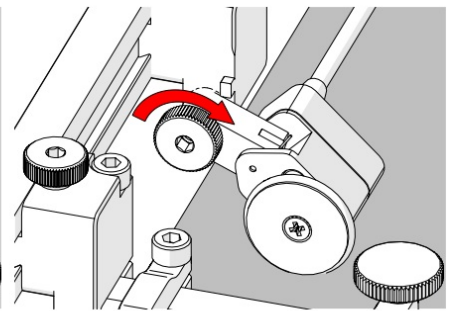

Fig. 6 - Ensure spring tension
2. Tighten the encoder thumb screw and ensure adequate spring tension of the encoder wheel to the scan surface (Fig. 6).